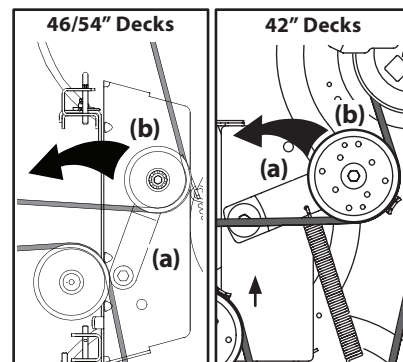

Figure 4-13
- b. Working from the middle of the tractor, pivot the idler bracket (a) and movable idler pulley (b) rearward away from the backside of the 'V' belt just far enough to lift the belt up and over the idler pulley (b). See Figure 4-13.